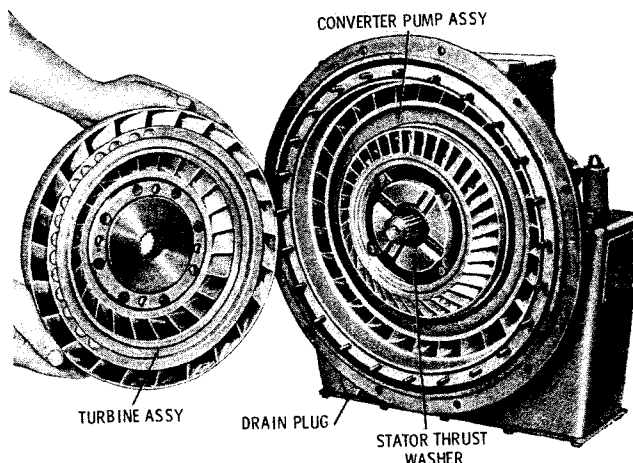

Fig. 7-8. Installing converter turbine assembly (TC 300)
(5) Install the turbine assembly with its front bearing assembly (fig. 7-8).